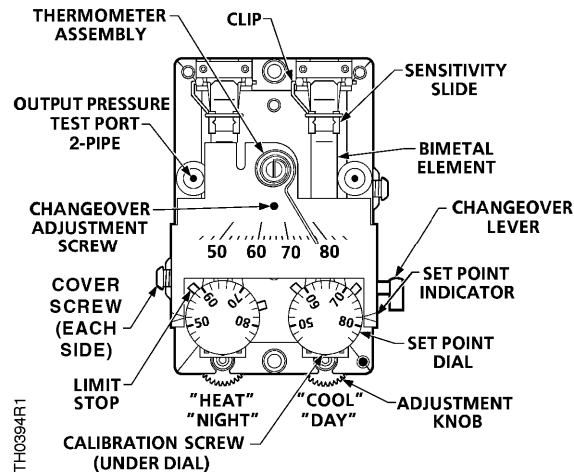

Figure 6. TH 192 DN and DNV Thermostat Details.
2. Place a screwdriver in the center of the thermometer assembly (Figure 6). Carefully rotate thermometer assembly until the pointer tip indicates the correct room temperature.